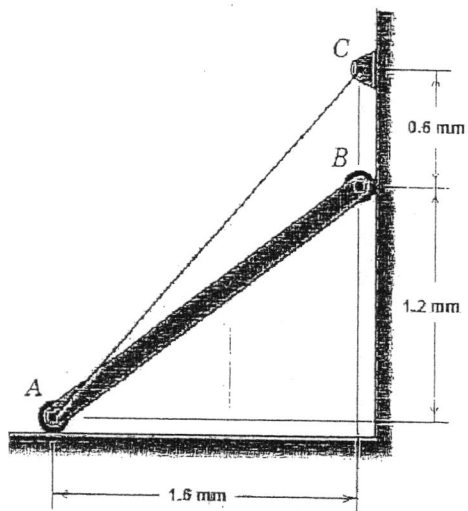

Fig. Q.1
1. The uniform 40-kg bar with end rollers is supported by the horizontal and vertical surfaces and by the wire AC as shown in Fig. Q.1. Calculate the tension T in the wire and the reactions against the rollers at A and at B. 12